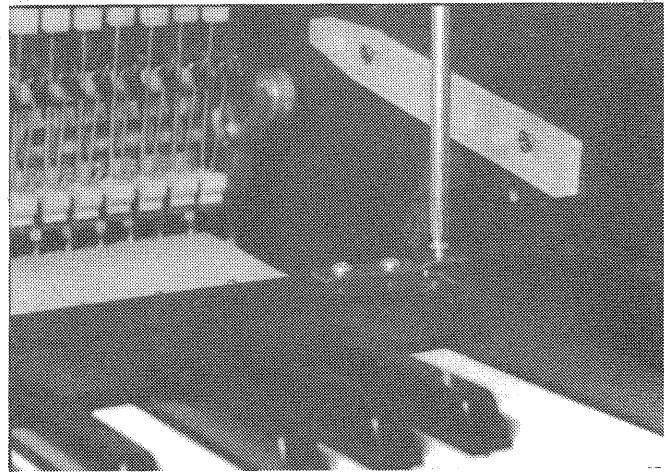

FIGURE 1-16 Piano #2 - Fall Strip (6).
6. Since Piano #1 has no Fall Strip (6), with the removal of the Fall Strip (6) from Piano #2 (see FIGURE 1-16 below), both pianos are disassembled to the same degree.